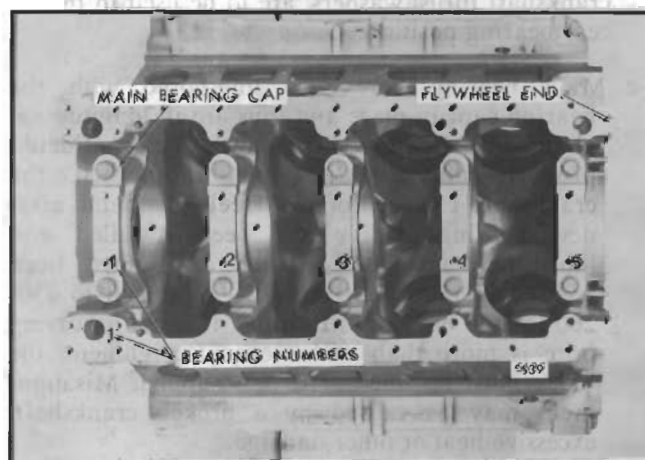

Fig. 6 - Cylinder Block Markings
**NOTE:** Bearing caps are numbered to correspond with their respective positions in the cylinder block. It is imperative that the bearing caps are reinstalled in their original positions to maintain the main bearing bore alignment. The number of the front main bearing cap is also stamped on the face of the oil pan mounting flange of the cylinder block, adjacent to its permanent location in the engine as established at the time of manufacture. The No. 1 main bearing cap is always located at the end opposite the flywheel end of the cylinder block (Fig. 6).
2. If a new service replacement block is used, stamp the engine serial number and model number on the right-hand side of the cylinder block. Also stamp the position numbers on the main bearing caps (Fig. 6) and the position of the No. 1 bearing on the oil pan mounting flange of the block.